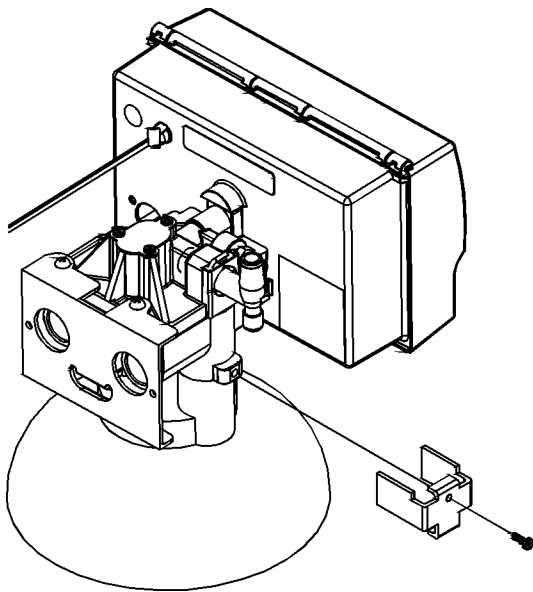

FIG. 2
See Figure 2.
4. Remove the two u-clamps and screws from the parts pack. Install the clamps on both sides of the control as indicated in Figure 2 and secure them with the screws.